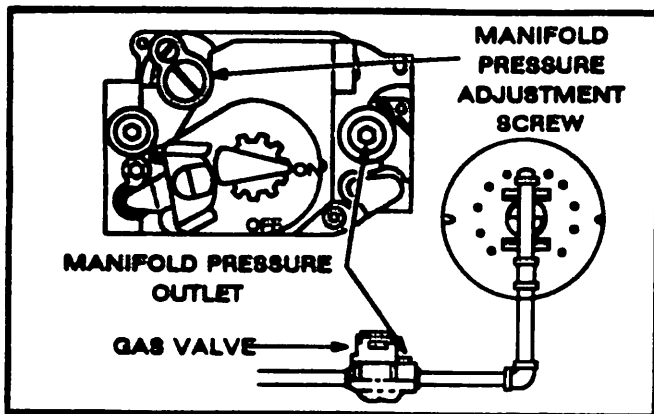

FIGURE 16
- 2- After line pressure has been checked and adjusted, check manifold pressure. Refer to figure 16 for proper location to measure manifold pressure and location of adjustment screw. Correct manifold pressures are shown in table 4.